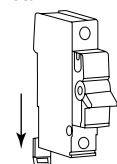

fig 1.
4. Fully open the bottom device clip (fig 1.)